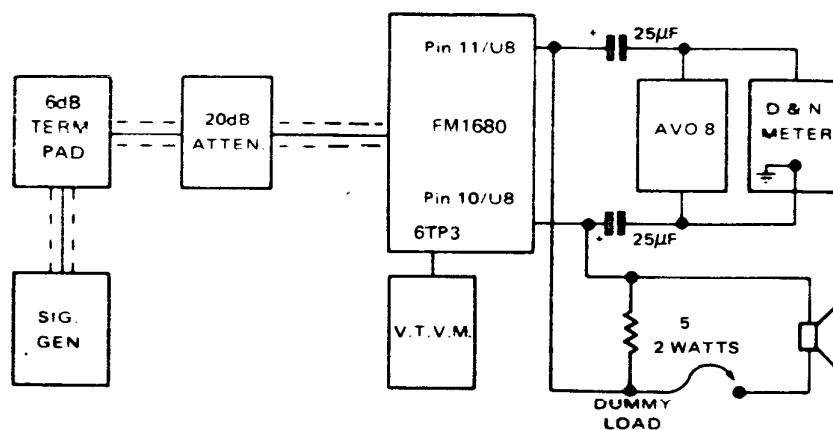

Figure 3
1. Set up the equipment as shown in Figure 3.
4. Adjust trimmers 4C1, 4C3, 4C6, 4C10 and 4L9 for maximum S/N ratio while gradually reducing the output of the signal generator until a S/N ratio of 32 dB (N) or 40 dB (NW) is obtained with an input of  $1 \mu\text{V}$ .
7. Tune 4C3 for maximum S/N ratio while decreasing the output of the signal generator to maintain a S/N ratio of 32 dB (N) or 40 dB (NW).
10. Re-tune 4C6, 4C10 while decreasing the output of the signal generator until a S/N ratio of 32 dB (N) or 40 dB (NW) is obtained.